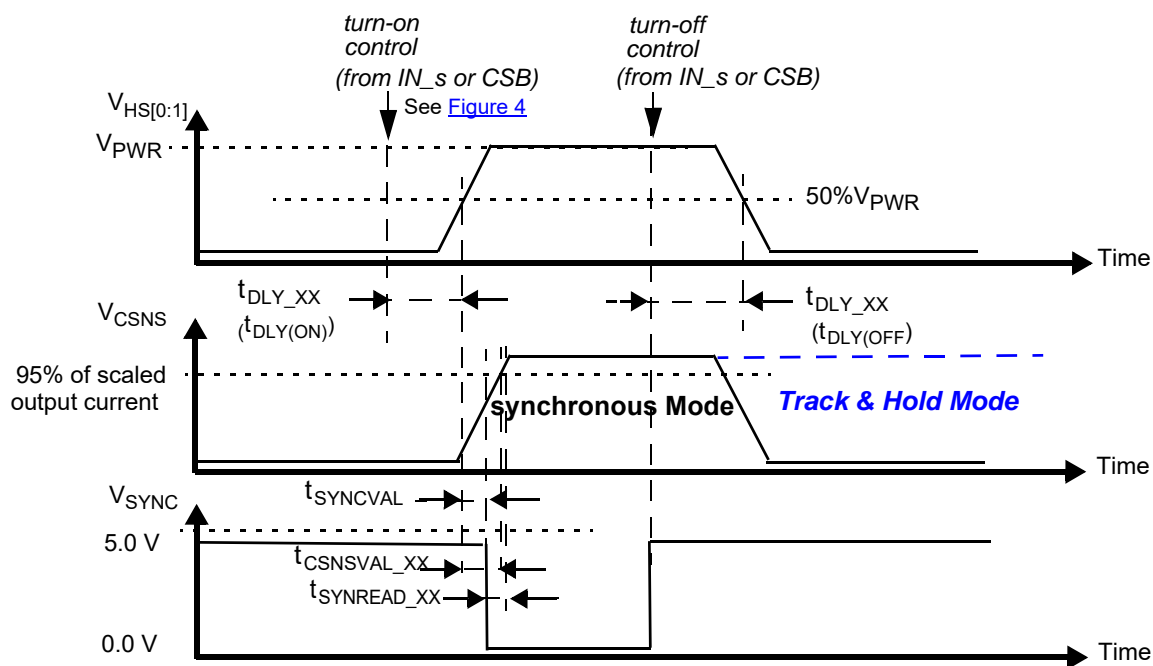

Figure 9. Synchronous and Track-and-Hold current sensing modes: associated delay and settling times
30. Time required to switch off the channel after detection of overtemperature (OT), overcurrent (OC), SC or UV error (time measured between start of the negative edge on the FSB pin and the falling edge on the output voltage until  $V(\text{HS}[0:1]) = 50\%$  of  $V_{PWR}$ ).
31. Settling time ( $= t_{CSNSVAL\_XX}$ ), SYNC output signal delay ( $= t_{SYNVAL\_XX}$ ) and Read-out delay ( $= t_{SYNREAD\_XX}$ ) are defined for a stepped load current using a  $10\text{ }\Omega$  resistive load for  $\text{CSNS\_RATIO}_s = 0$ . (see Figure 9 and Output current monitoring \(CSNS\)).
The CS pin allows independent current monitoring of channel 0 or channel 1 up to the steady state overcurrent threshold. It can also be used to sense the device temperature. The different functions are selected by setting bits CSNS1\_en and CSNS0\_en to the appropriate value (Table 23). When the CSNS pin is sensed during switch-off in the (optional) track & hold mode (see Figure 9), it outputs the scaled value of the load current as it was just before turn-Off. When several devices share the same pull-down resistor, the CSNS pins of devices the current of which is not monitored must be tri-stated. This is accomplished by setting CSNS0\_en = 0 and CSNS1\_en = 0 in the GCR register (Table 10). Settling time ( $t_{CSNSVAL\_XX}$ ) is defined as the time between the instant at the middle of the output voltage's rising edge ( $HS[0:1] = 50\%$  of  $V_{PWR}$ ), and the instant at which the voltage on the CSNS-pin has settled to  $\pm 5.0\%$  of its final value. Anytime an overcurrent window is active, the CSNS pin is disabled (see Overcurrent detection on resistive and inductive loads). The current and temperature sensing functions are unavailable in Fail-safe mode and in Normal mode when operating without the  $V_{DD}$  supply voltage. In order to generate a voltage output, a pull-down resistor is required ( $R(CSNS)=1.0\text{ k}\Omega$  typ. and  $470 < R(CSNS) < 10\text{ k}$ ). When the current sense resistor connected to the CSNS pin is disconnected, the CSNS voltage is clamped to  $V_{CL(CSNS)}$ . The CSNS pin can source currents up to about 5.6 mA.
To synchronize current sensing with an external process, the SYNC signal can be connected to a digital input of an external MCU. SYNC is asserted logic low when the current sense signal is accurate and ready to be read. The current sense signal on the CSNS pin has the specified accuracy  $t_{SYNCREAD\_XX}$  seconds after the falling edge on the SYNC pin (Figure 9) and remains valid until a rising edge is generated. The rising edge that is generated by the SYNC pin at the turn-OFF instant (internal or external) may also be used to implement synchronization with the external MCU. Parameter  $t_{SYNCVAL\_XX}$  is defined as the time between the instant at the middle of the output-voltage rising edge ( $HS[0:1] = 50\%$  of  $V_{PWR}$ ), and the instant at which the voltage on the SYNC-pin drops below 0.4 V ( $V_{SOL}$ ). The SYNC pins of different devices can be connected together to save  $\mu$ -controller input channels. However, in this configuration, the CSNS function of only one device should be active at a time. Otherwise, the MCU does not determine the origin of the SYNC signal. The SYNC pin is open drain and requires an external pull-up resistor to VDD.